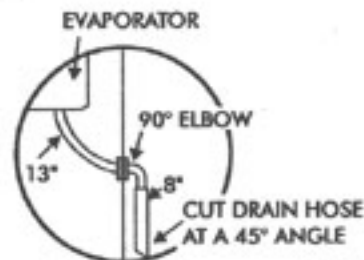

FIGURE 15
- 10. CUT A LENGTH OF DRAIN HOSE TO 13 INCHES. ATTACH TO DRAIN ON EVAPORATOR AND ATTACH 90° ELBOW TO OTHER END. INSTALL AS SHOWN IN FIGURE 15, PAGE 7.